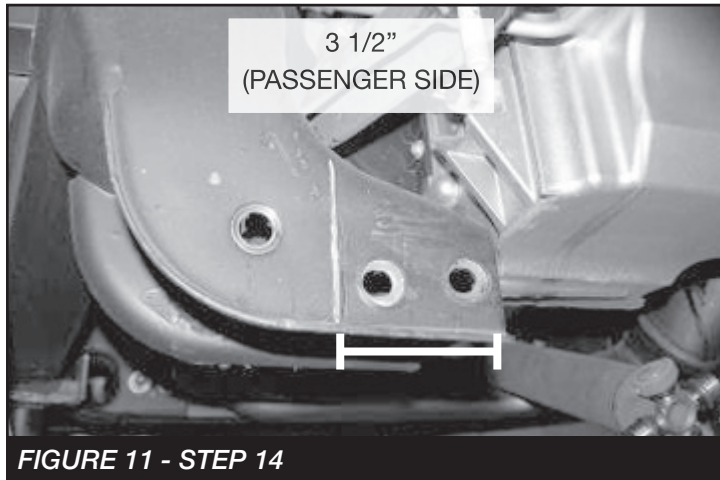

**FIGURE 10 - STEP 13**
13. Locate the rear driver lower control arm mount on the frame. Measure 3" from the inside edge of the mount toward the frame and mark with a paint pen. Use a sawzall and cut the mount from the frame. **SEE FIGURE 10**